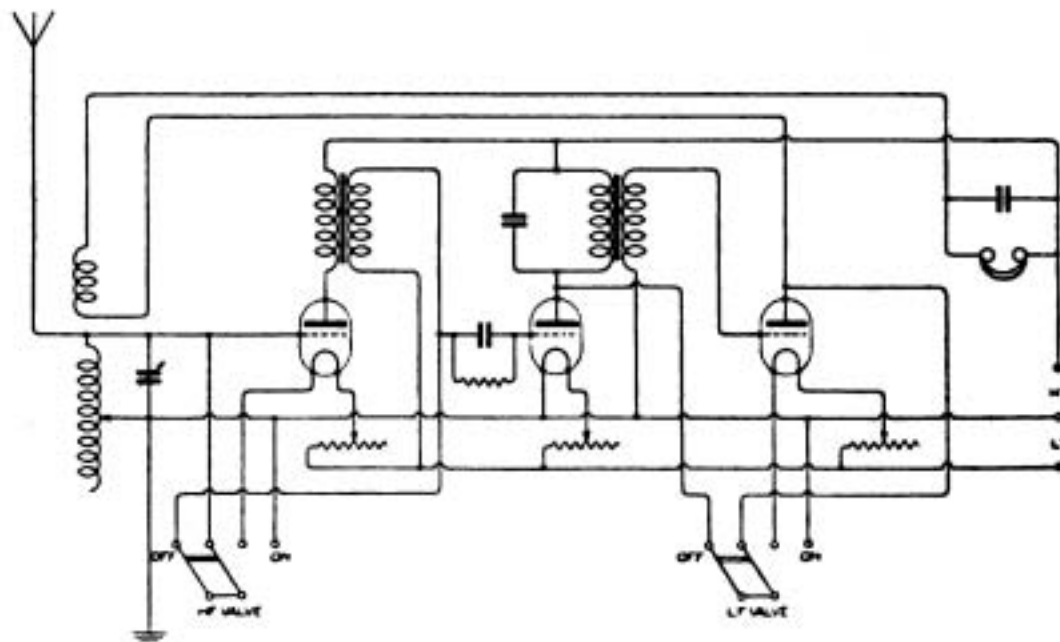

Fig. 5.
(3) The actual magnification will depend on the magnification factor of the valve in use, which may be any value between 4 and 10.
D.P.F. (Stalybridge) sends a circuit as shown in Fig. 5, and asks for criticism.
W.A. (Buxton).—The diagram given by D.P.F. (Stalybridge), Fig. 5, is just what you require. A telephone transformer is not essential with a set of this type, but it is advisable to use one and also L.R. telephones, so as to avoid the risk of breaking down the insulation of the H.R. telephones.